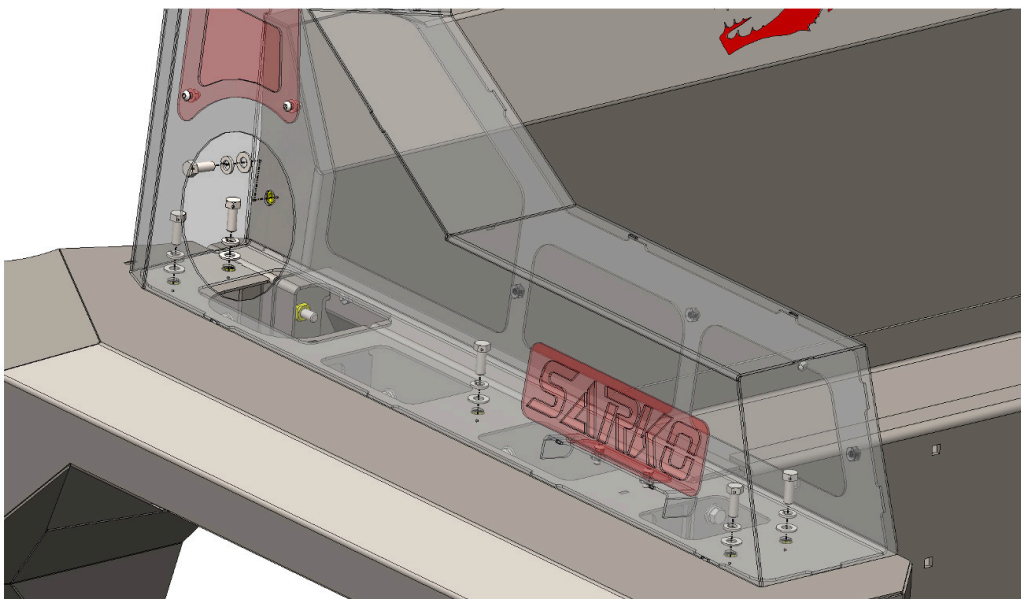

Figure 22.
24. Install the riser onto the bed using six (6) 3/8" hex head bolts with flat/lock washers. Figure 22.